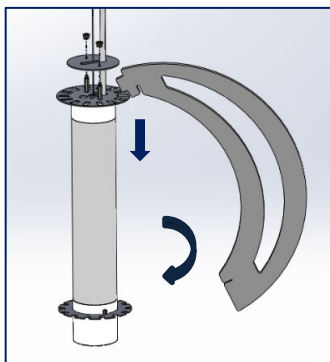

FIG. 24 – FIN
13. Install the first fin by inserting the tab into the top fin bracket. Then press the notch into the bottom fin bracket to keep stable as shown in FIG. 24 & 25 below.